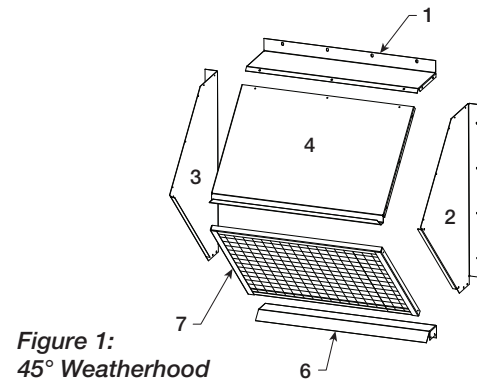
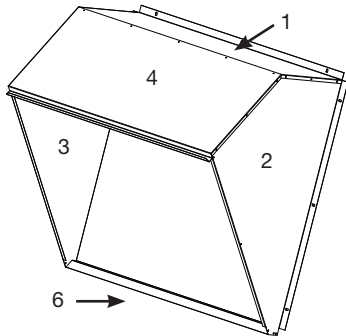

Figure 1:
Figure 5:
1. Refer to Figure 1 to identify parts for assembly.
2. Assemble front diagonal panel (4) to right side panel (2) with 5/8 inch length sheet metal screws. Overlap the flange on the front diagonal panel (4), over the right side panel (2).
3. Repeat step 2 for left side panel (3).
4. As shown in Figure 5, assemble the top panel (1) to the front diagonal panel (4) and side panels (2 and 3) overlapping with the flanges. Use 5/8 inch length supplied sheet metal screws.